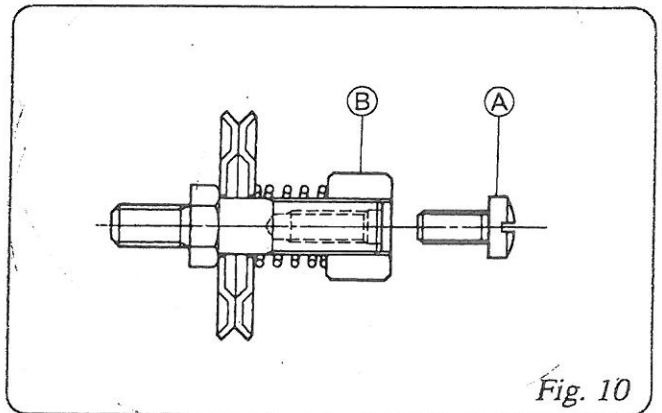

Fig. 10
1. Thread Tension (Fig.10)
The thread tension spring is preset at the factory to sew PP woven cloth bags. If some adjustment is needed, first loosen screw (A) (9/64S40054) and adjust the thread tension nut (B) (245092) as per Fig.10. When the adjustment is finished, retighten screw to lock the thread tension nut.